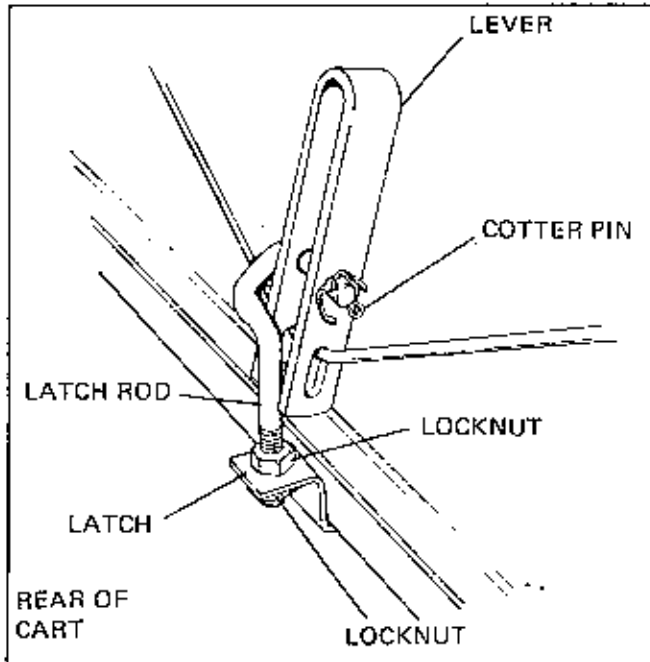
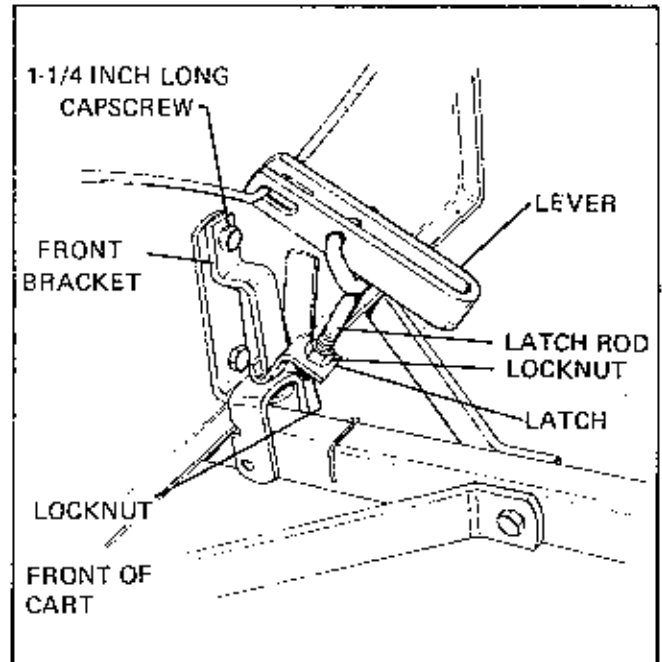

FIGURE 22
FIGURE 23
9. Secure bracket to front of cart with 1-1/4 inch long capscrew (Figure 23).
11. Insert rear latch rod through lever holes and secure it with a cotter pin (Figure 22). Install locknut, latch, and locknut on latch rod. With lever in closed position, adjust latch until it is securely hooked under cart. Repeat procedure for front side with latch tight under bracket (Figure 23).